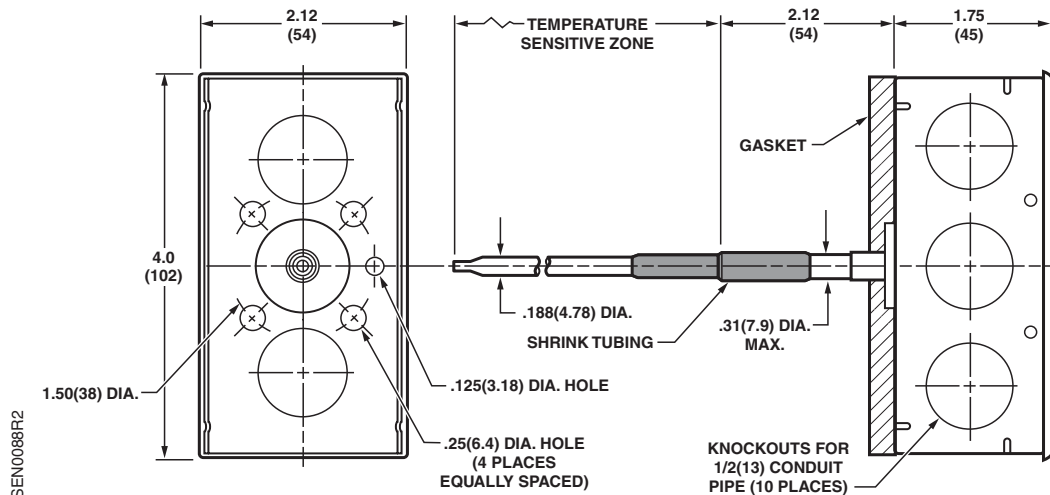

Figure 3 Rigid Duct Averaging Temperature Sensor Mounting Hole Locations.
1. Mark the location of four holes on the duct at the place where the unit is to be mounted (see Figure 3). Mark the location in the center of the four mounting holes for a one-inch clearance hole.